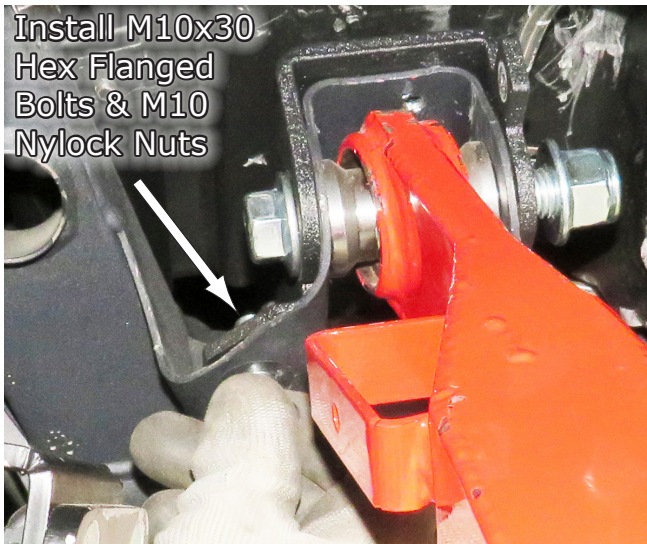
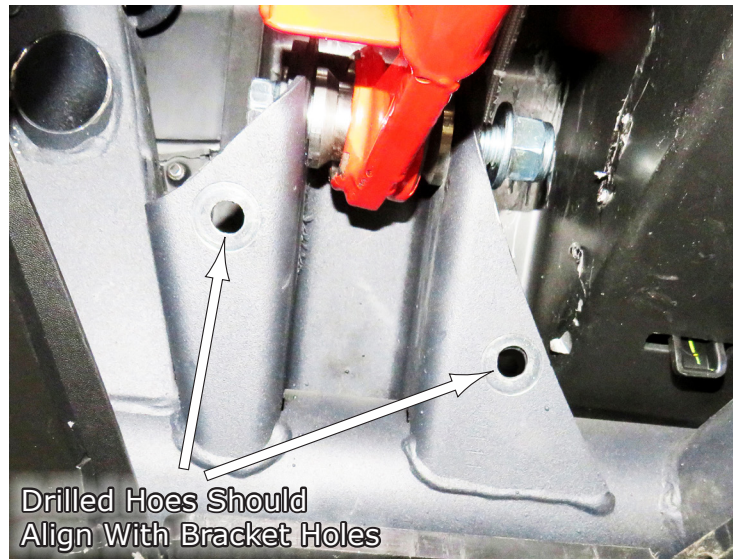

**Fig.3a**
**Fig.3b**
3. Next, you will now need to **Cut the Paper Templates** out (located on page 5) and **Drill Two (2) Holes** in the **Frame Clevis** where the Frame Stiffener will bolt to the frame. **Fig.3a** shows **Aligning the Sides Of the Template** to the frame which is **Critical For Alignment**. Then **Drill the Two Holes Thru** for M10 bolts shown in **Fig.3b-c**.